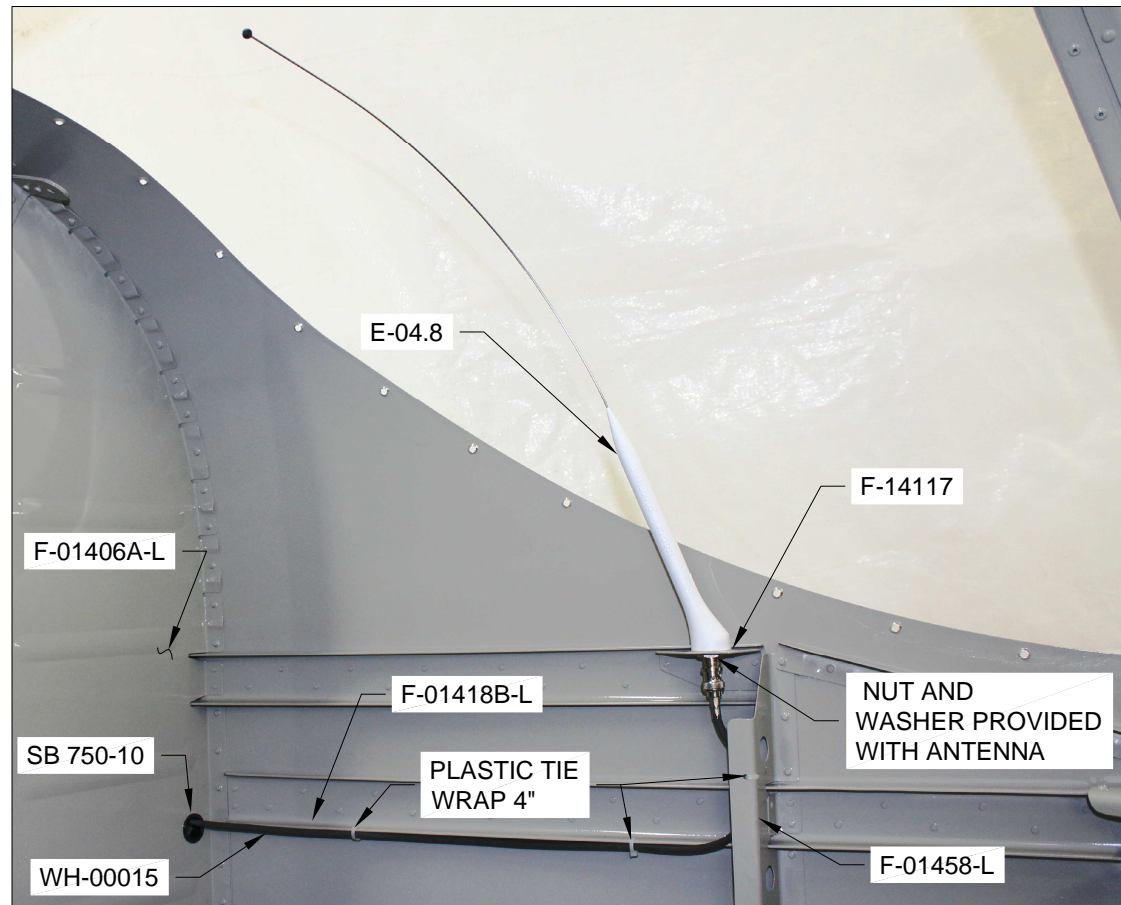

FIGURE 2: ANTENNA INSTALLATION
Step 2: Install the E-04.8 ELT Whip Antenna on the antenna bracket with the provided nut and washer. Align the antenna aft and rotate inward to clear the window as shown in Figure 2.
Step 4: Install the snap bushing in the F-01406A-L Bulkhead and feed the WH-00015 Antenna Cable through from the Aft Fuselage. See Figure 2.
Step 5: Attach the WH-00015 Antenna Cable to the E-04.8 Antenna as shown in Figure 2.
Step 6: Secure the antenna cable to the F-01418B-L Aft Fuse Longeron and the F-01458-L Side Frame with plastic tie wraps as shown in Figure 2.